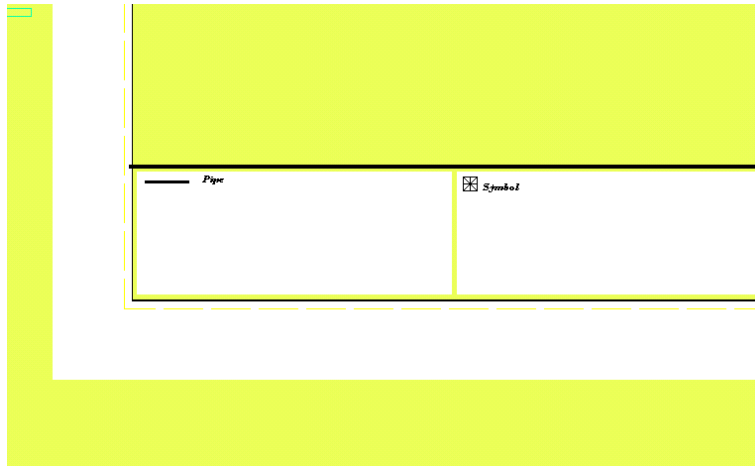

Figure 4-48
33. Select *Draw/Text* and type in the word **Symbol**. Set the font and size the same as for the pipe legend. Place the text to the right of the symbol. See Figure 4-48.